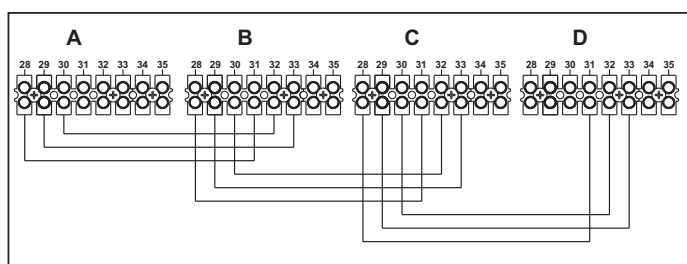

fig. 24 - Connection in cascade
1. Connect the modules as shown in fig. 24 (example with 4 modules)
If this does not occur, disconnect the power and check the wiring in fig. 24.